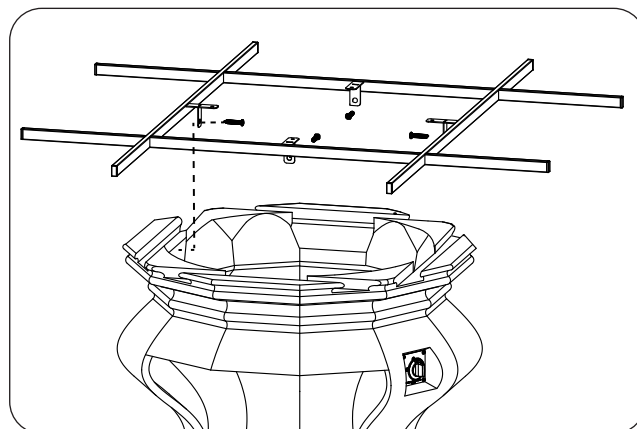

Fig. 29-2 Install bracket
3. Place the bracket in the grooves found on the top of the base. Then use a Phillips screwdriver and the supplied concrete screws (4) to fasten the bracket into the base as shown in Fig. 29-2.